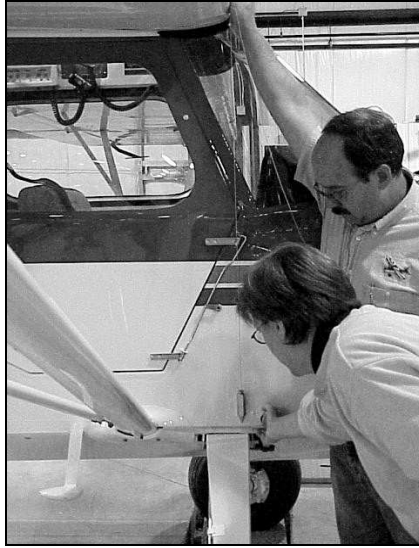

Figure 3-3, Longitudinal Leveling
4. Adjust the height of the tail so that the plumb line is 12.18 in. forward of front face of fuselage-strut attach fitting. At this point the aircraft is longitudinally level. Reference Figure 3-3.